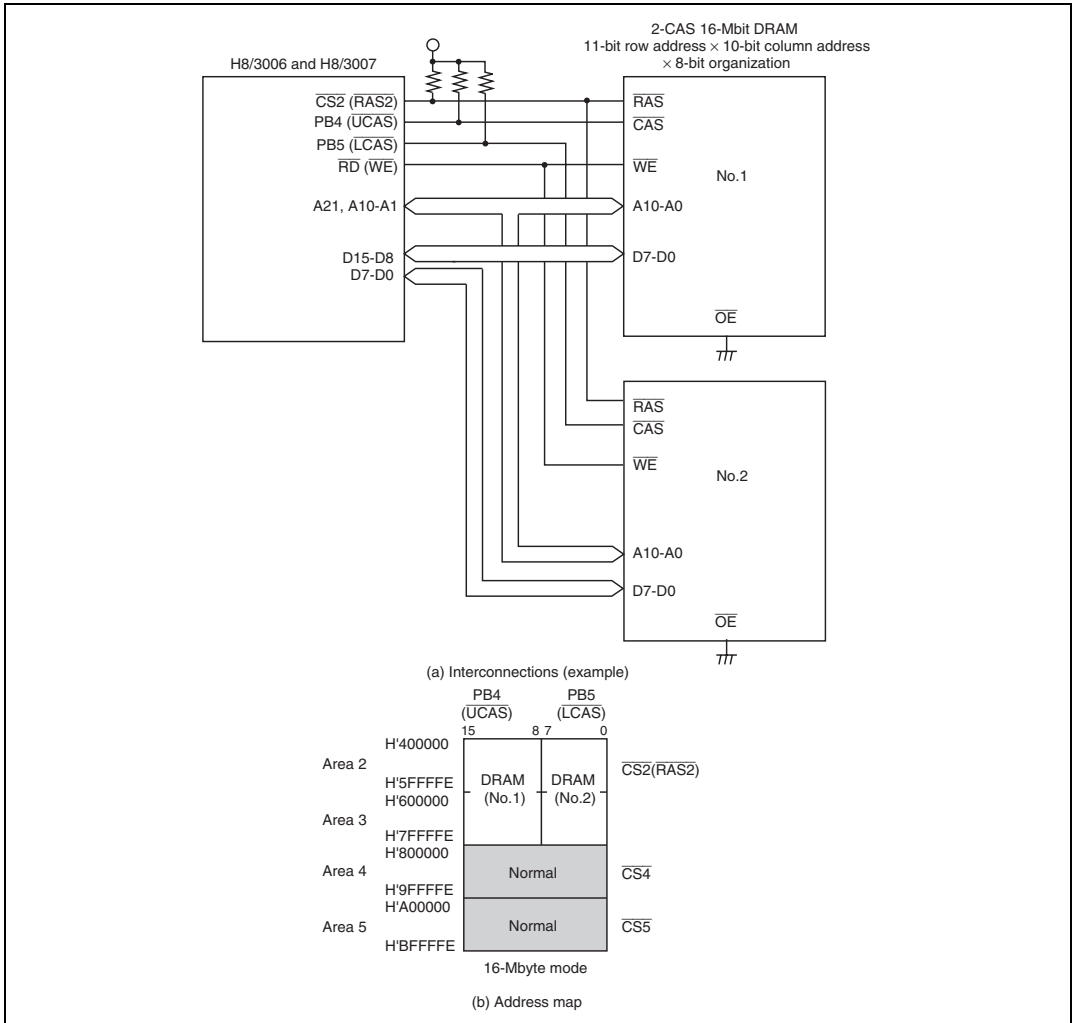

Figure 6.30 Interconnections and Address Map for 16-Mbit DRAMs with $\times 8$ -Bit Organization
- Figure 6.30 shows typical interconnections when using two 16-Mbit DRAMs using a $\times 8$ -bit organization, and the corresponding address map. The DRAMs used in this example are of the 11-bit row address \times 10-bit column address type. The $\overline{CS2}$ pin is used as a common \overline{RAS} output pin for area 2 and area 3. When the DRAM address space spans a number of contiguous areas, as in this example, the appropriate setting of bits DRAS2 to DRAS0 enables a single \overline{CS} pin to be used as the common \overline{RAS} output pin for a number of areas, and makes it possible to directly connect large-capacity DRAM with address space that spans a maximum of four areas. Any unused \overline{CS} pins (in this example, the $\overline{CS3}$ pin) can be used as input/output ports.